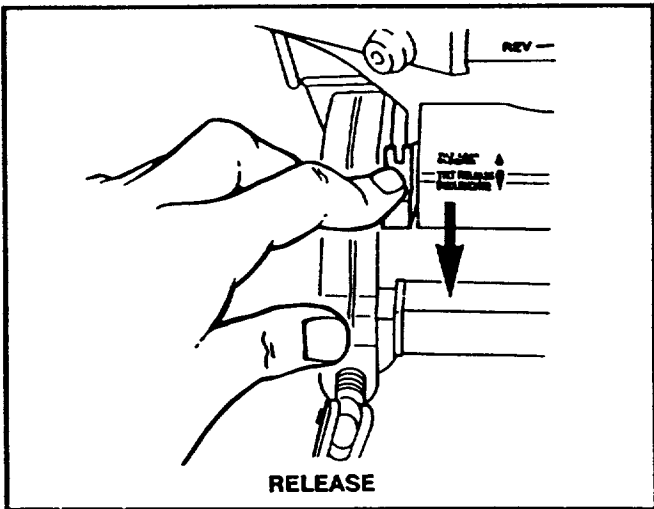

FIGURE 6
- To tilt the motor up out of the water push tilt release lever down to "Release" position. (Figure 6)